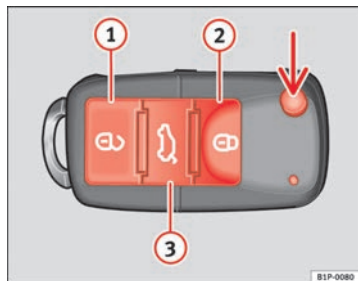

Fig. 43 Assignment of buttons on the remote control key
Using the button \Rightarrow fig. 43 (arrow) on the control, the key shaft is released.
Unlocking the vehicle \Rightarrow fig. 43 ①.
Locking the vehicle \Rightarrow fig. 43 ②.
Unlocking the tailgate. Press button \Rightarrow fig. 43 ③ until all the indicators on the vehicle flash briefly. When the unlocking button \Rightarrow ③ is pressed, you have 2 minutes to open the door. After this period, the door is locked once more.
- Press  button  ⇒ page 75, fig. 43 on the remote control.